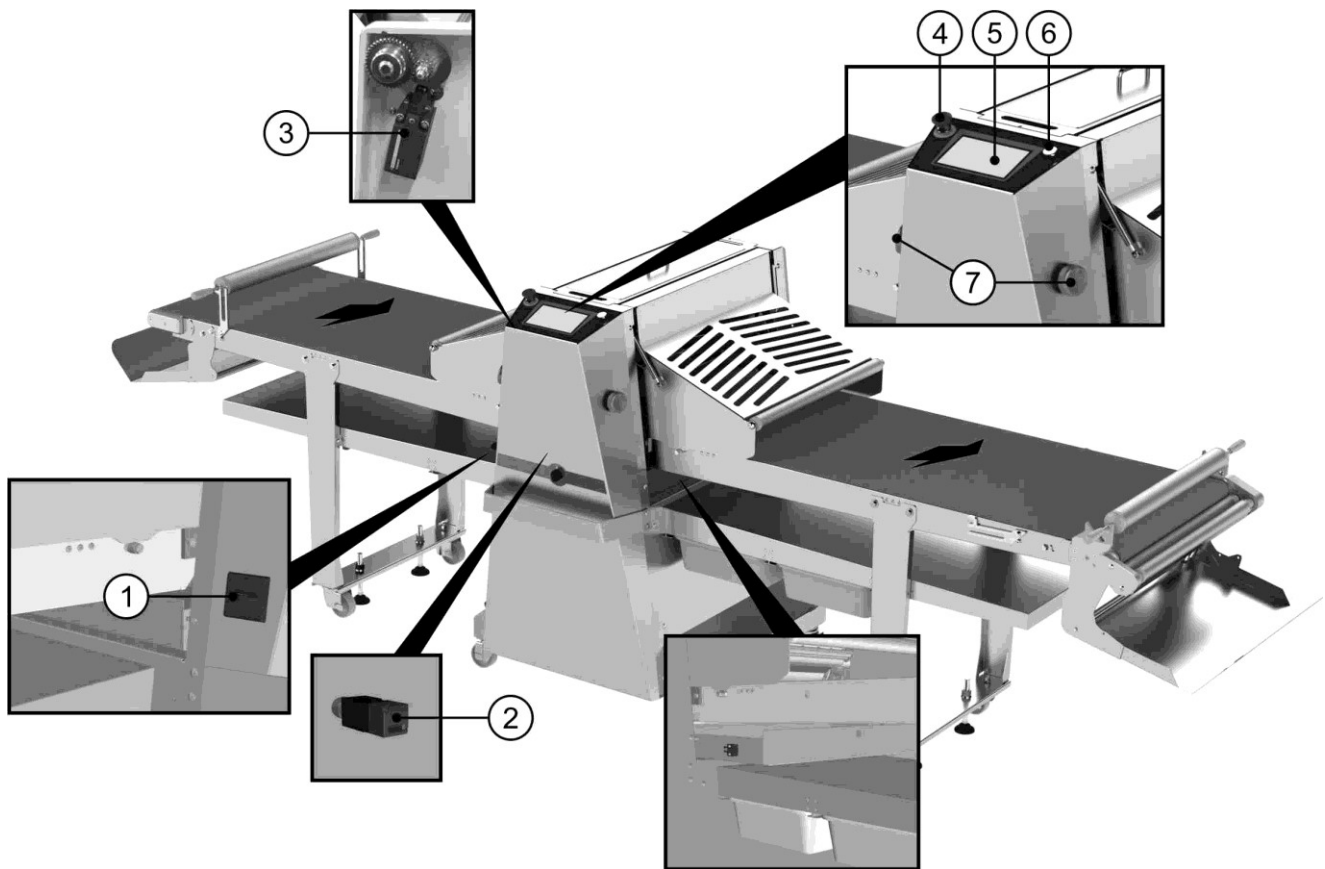

Figure 4
As illustrated in Figure 4, the machine is supplied as standard with the following control and adjustment devices:
- Every time the machine is switched on, press the push-button Ref. 6 Figure 4 to enable machine operation. This procedure must be carried out any time the machine is stopped following the triggering of a safety device (when a guard is opened or the emergency push-button is pressed)
- Make sure that the emergency stop push-button Ref. 4 Figure 4 is disabled (if not, reset it)
- Position the main switch to **I (ON)** Ref. 1 Figure 4
- The push-button that enables operation, Ref. 6 Figure 4 will light up to indicate the presence of power (fixed white light)